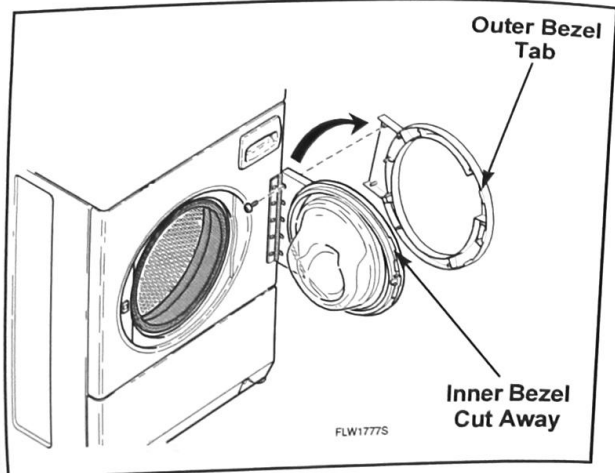

Figure 1
2. Remove 11 T-20 Torx head screws holding outer door bezel to inner door bezel. Refer to *Figure 1*.
3. Pull hinge side of outer bezel away from door and slide forward. Refer to *Figure 1*.
5. Install new outer door bezel by aligning outer bezel tabs with cut aways on inner bezel and sliding outer bezel into position. Refer to *Figure 1*.